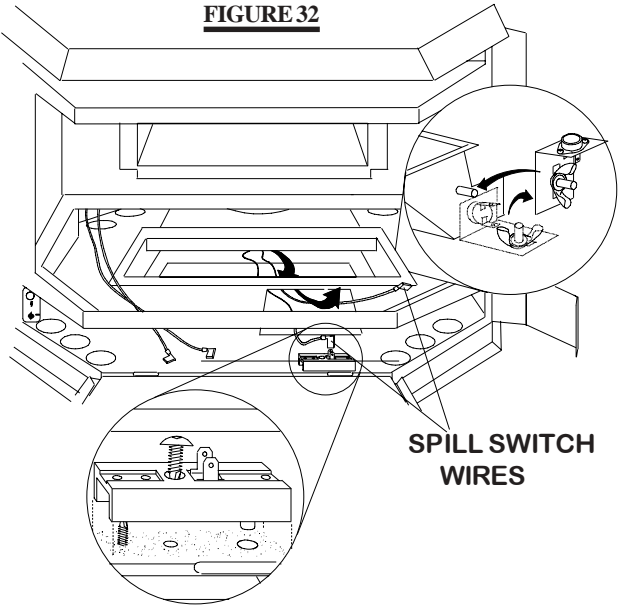

FIGURE 32
4. Secure the terminal block into place as shown with the screw supplied. **FIGURE 32.**